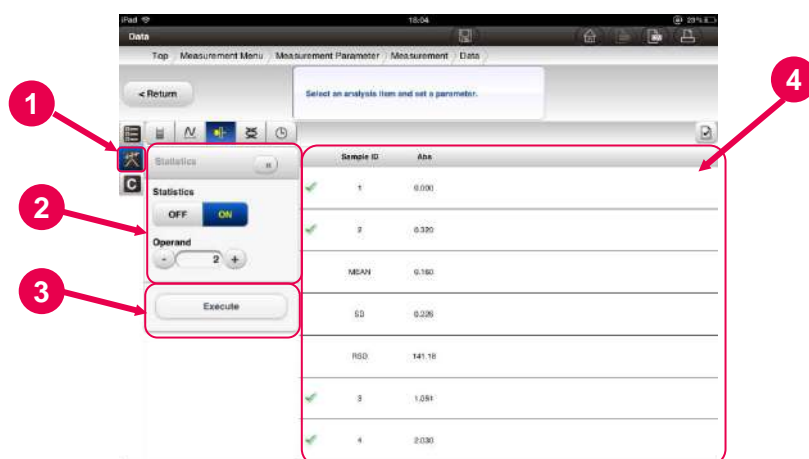

Fig. 5-34 Statistical Calculation Setting Parameters Window
- (1) To change the statistical calculation setting parameters, press the [Statistical Calculation Tool Icon] button .
- (2) The setting parameters for the statistical calculation (Fig. 5-34) are displayed. See 4.2.2 “Measuring Absorbance/Transmittance” for the setting parameters.
- (3) Set up the items and press the [Execute] button.
- (4) The results of the data processing are displayed.